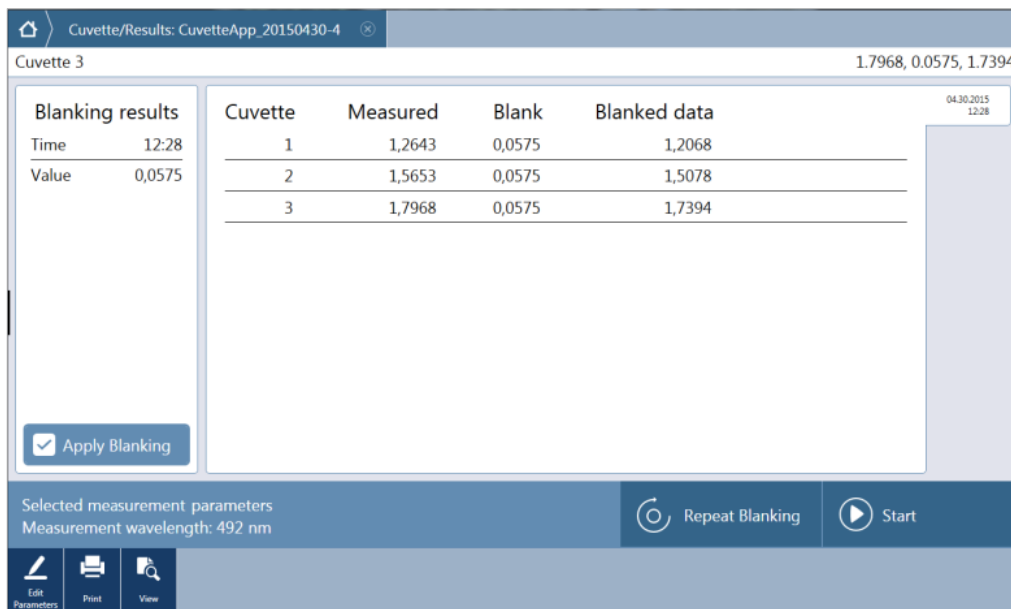

Figure 81: Result window during a measurement
4. Insert a cuvette for blanking and confirm the corresponding user intervention by selecting **OK**. The blanking measurement is performed and the blanking result is part of the Result window (Figure 81: Result window during a measurement).
2. Start the measurement by selecting **Start**. The measured result is displayed within the Result window (Figure 81: Result window during a measurement). To measure a new sample remove the previous cuvette from the cuvette port, insert the new one and continue with **Start**. The new measured result is added to the Result window.